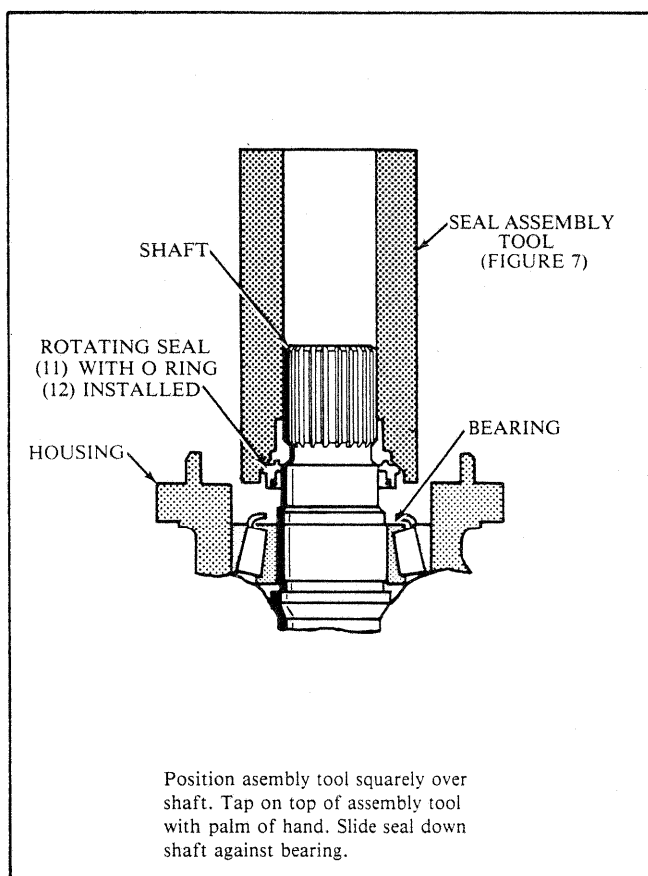

Figure 16. Rotating Seal Installation
- b. Remove retainer screws (1) from retainer (2).
- d. Install bearing washer (13a) on bearing (13) (MFD45 models only).
f. Lubricate "O" rings (12) (yellow coated) and place it into rotating seal (11). Then position rotating seal on seal assembly tool noted in special tool section (Figure 7). Position seal assembly tool squarely over shaft (15) and assemble rotating seal (11) on shaft (15) against bearing (13). See Figure 16.